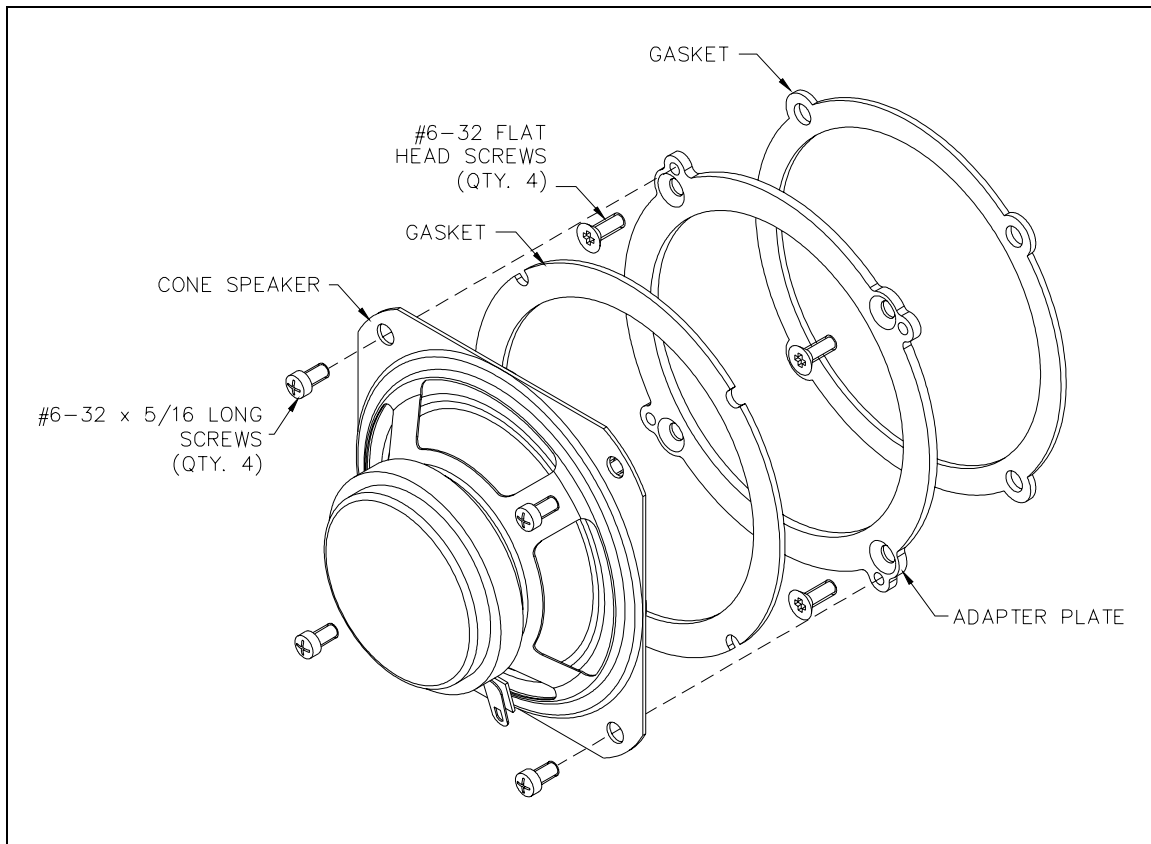

Figure 1. Diagram showing old parts requiring removal
8. Use a 1/4-inch nut driver to remove the standoff in front of the speaker assembly. Remove and discard the four #6-32 screws securing the speaker assembly to the adapter plate. Remove and discard the four #6-32 flat head screws that hold the adapter plate to the front panel. Remove the adapter plate. See Figure 1.